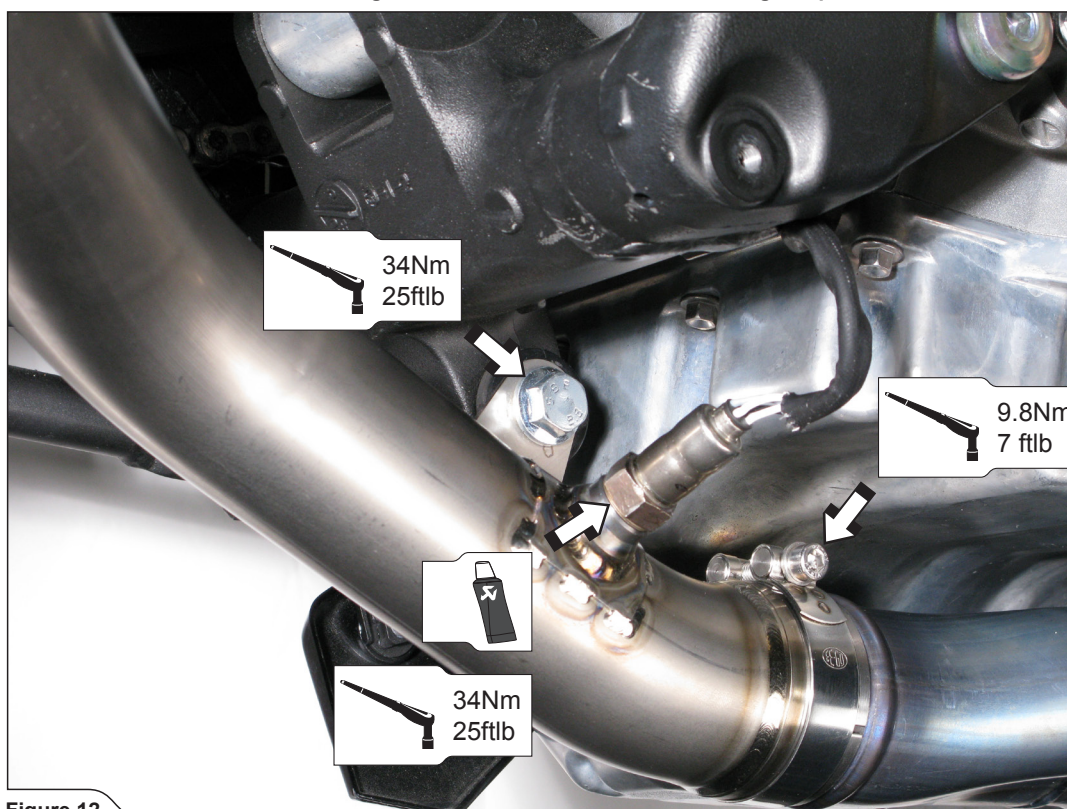

Figure 12
4. **For optional link pipe only:** slide the optional link pipe all the way onto the original headers and align it in respect to the motorcycle. Tighten the link-pipes' bracket onto the frame (using bolt and nut from installation kit), lambda sensor and metal clamp to a specified torques (Figure 12).